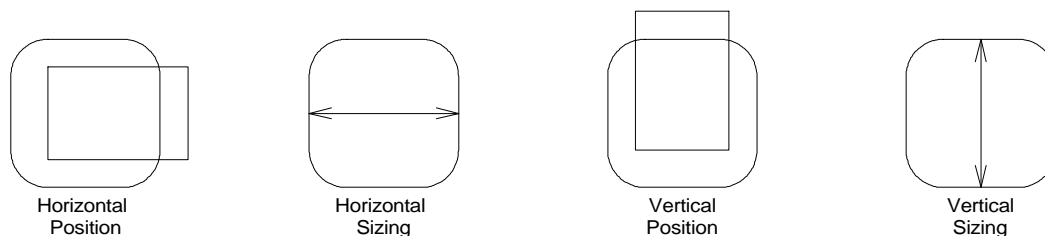

Figure 2, Monitor Adjustment Symbols
58. Using the **Select “+”** or **“-”** buttons on the front of the monitor, highlight **Horizontal Position** symbol, as shown in figure 2 below.
60. Using the **Select “+”** or **“-”** buttons on the front of the monitor, highlight **Horizontal Sizing** symbol, as shown in figure 2 below.
62. Using the **Select “+”** or **“-”** buttons on the front of the monitor, highlight **Vertical Position** symbol, as shown in figure 2 below.
64. Using the **Select “+”** or **“-”** buttons on the front of the monitor, highlight **Vertical Sizing** symbol, as shown in figure 2 below.